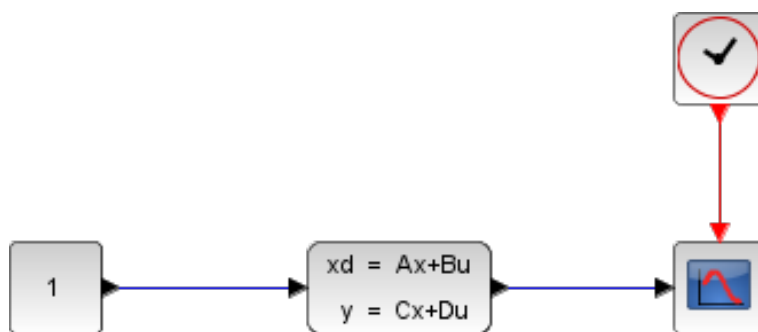

FIGURE 4 – Xcos model to simulate the step response of the robot.
9. In the following, we use Xcos application with Scilab (equivalent to Simulink with Matlab) to do the experiments. To get one's hand in, construct the Xcos model depicted in Figure 4 to simulate the step response of the robot. Plug-in the following information :